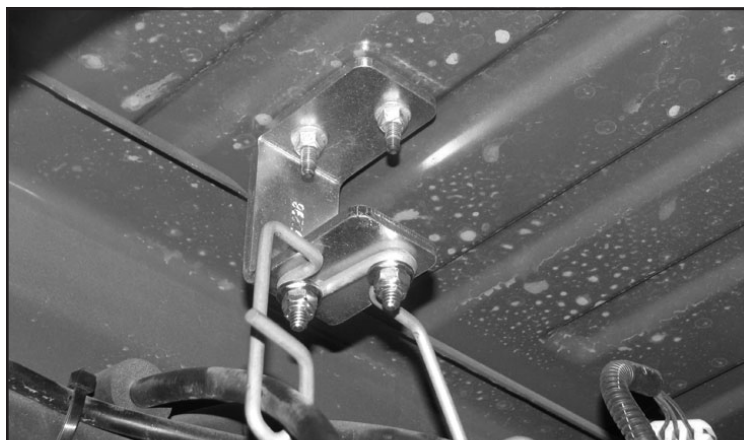

FIGURE 32 - STEP 26
26. Locate FT50298 E-Brake Bracket and supplied 1/4" hardware. Position the bracket to the factory mounting position and attach with the factory hardware. Attach the factory bracket to the new Fabtech bracket with the 1/4" hardware. Torque to 10 lbs. **SEE FIGURE 32**